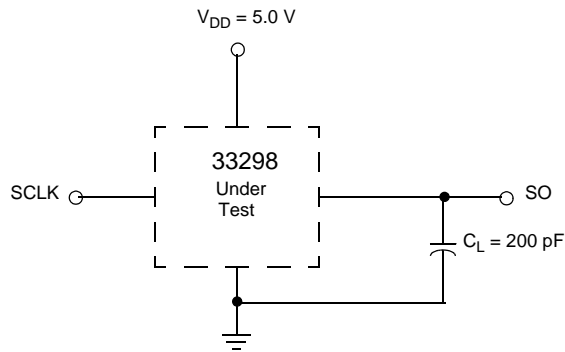

Figure 5. Valid Data Delay Time and Valid Time Test Circuit
- 39. Time required to obtain valid data out from SO following the rise of SCLK. See Figure 5.